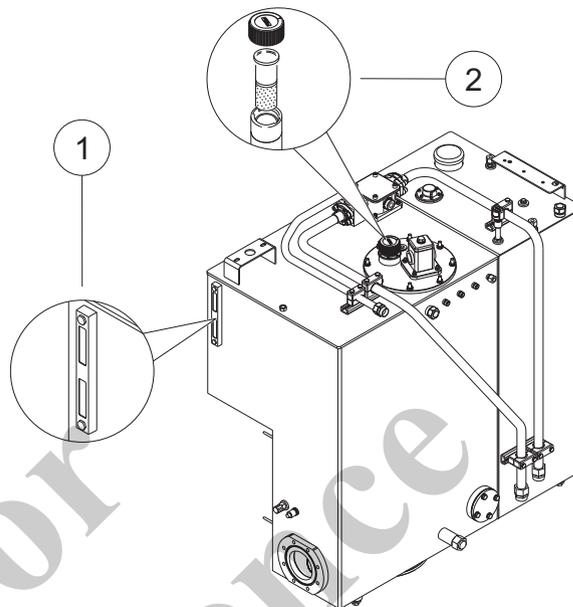

Fig. 208 Hydraulic tank
| 1 | Check the oil level on the oil level indicator (1) in Fig. 208:
| 1 | Unscrew the cap to the oil filler neck (2) in Fig. 208. |